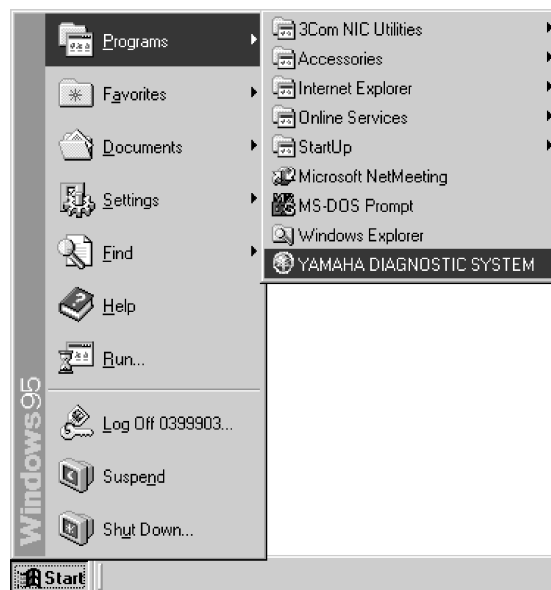

Fig. 4
3. From the taskbar at the bottom of your computer screen, click the **Start** button (Fig. 4), point to **Programs**, and then click **YAMAHA DIAGNOSTIC SYSTEM**.